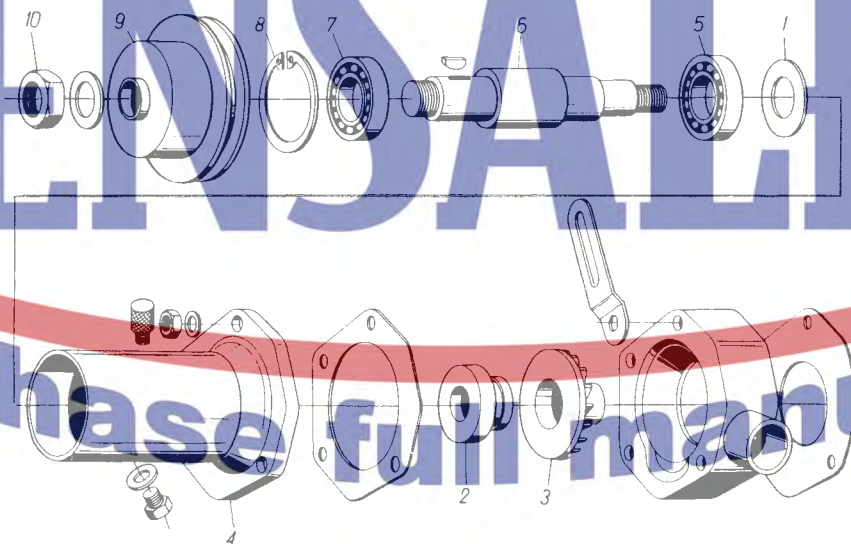

Figure 5. Water Pump, Exploded View
1. Secure the water pump in a vise near the V-belt pulley; remove the impeller (Figure 5, No. 3) from the shaft (Figure 5, No. 6).
2. Release and unscrew the M16 x 1.5 nut (Figure 5, No. 10); remove the belt pulley (Figure 5, No. 9) using a puller; remove the Woodruff key from the groove in the shaft.
5, No. 8) from the bearing seat (Figure 5, No. 4); press the shaft and bearing (Figure 5, No. 7) and oil thrower (Figure 5, No. 1) toward the V-belt pulley and remove the shaft assembly. (Do not damage the bearing seal when removing the circlip.)
4. Use a press when replacing the bearings (Figure 5, No. 5 and No. 7).